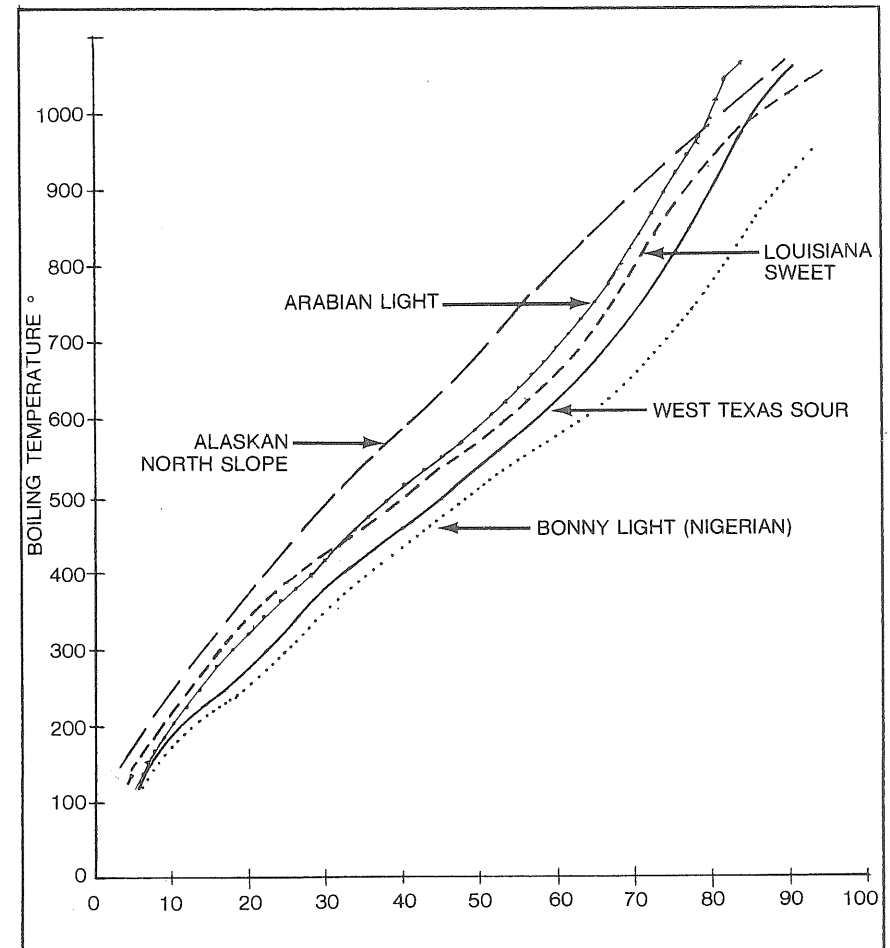

Fig. 2-7 —Distillation Curves for Some Crude Oils
*Review* In Fig. 2-7, the distillation curves for five different crudes are shown, three domestic and two foreign. Some have more light fractions, some have more heavy. All have different prices, so refiners will have different incentives to process them—particularly when the different hardware in the refineries is taken into account.